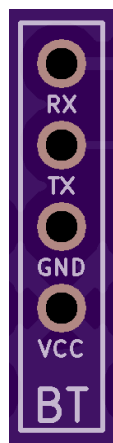

Figure 27: Bluetooth mount thru-holes
6. Create a 4 pin female connector as described in **Section 7.3.1** (Wire Cutting) with 4 equal length wires of 85 mm. Then solder the end onto the RX, TX, GND and VCC thru-holes as shown in **Figure 27** below.